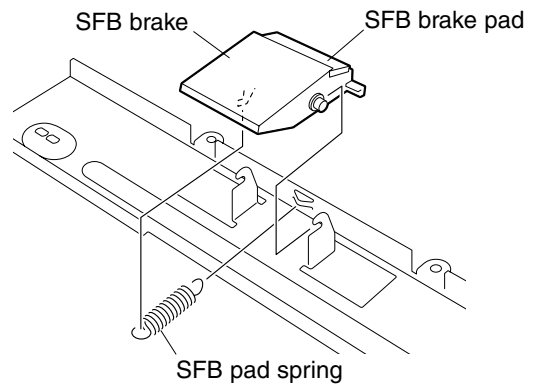

**Fig. 6-12**
3. Detach SFB feed cover. (See Fig. 6-12 and 6-14)
Before attaching the SFB feed roller assembly, loosen 2 screws securing the SFB feed roller fixing plate. Attach the SFB brake pad assembly (See Fig.6-12), then fix the SFB feed roller fixing plate in place.
- Detach SFB feed cover. (See Fig. 6-12 and 6-14)